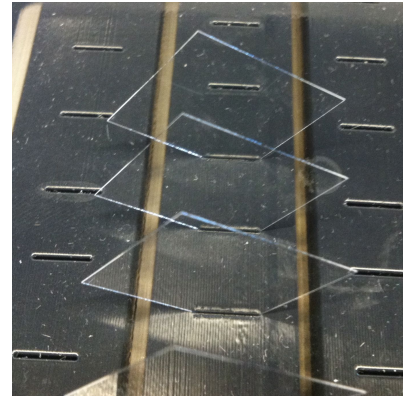

Figure 2. Cover glass in a drying rack.
- The day before mounting - one in-and-out dip in cold PLL. Let dry overnight in a drying rack at room temperature (RT) protected from dust and light (Figure 2).